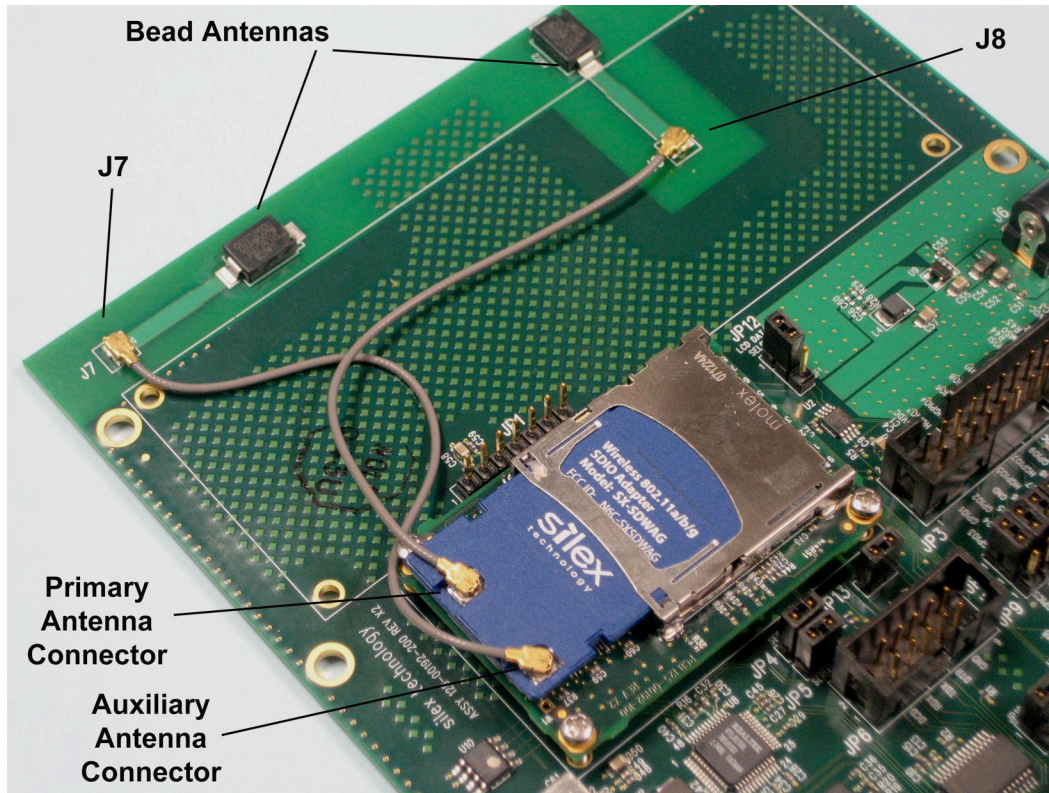

Figure 3 SX-560 Module Inserted in Daughtercard
2. The Evaluation Daughtercard includes both on-board bead antennas and external antennas. Use the included U.FL to U.FL cables with the bead antennas or the U.FL to RP-SMA cables with the external antennas. Plug the main antenna cable into the Main Antenna Connector on the card (see Figure 3). Plug the auxiliary antenna cable into the Auxiliary Antenna Connector (the auxiliary antenna improves radio reception, but is not required for operation).
3. If you are using the on-board bead antennas, connect the other end of the antenna cable(s) into either of the built-in bead antenna connectors (J7 and J8) as shown in figure 3. If you are using the external antennas, connect the RP-SMA end of the antenna cable(s) to the external antenna(s).